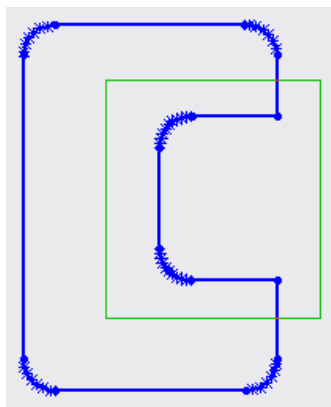

Figure 1
8. Zoom in and window-pick the sketch as shown in **Figure 1**.